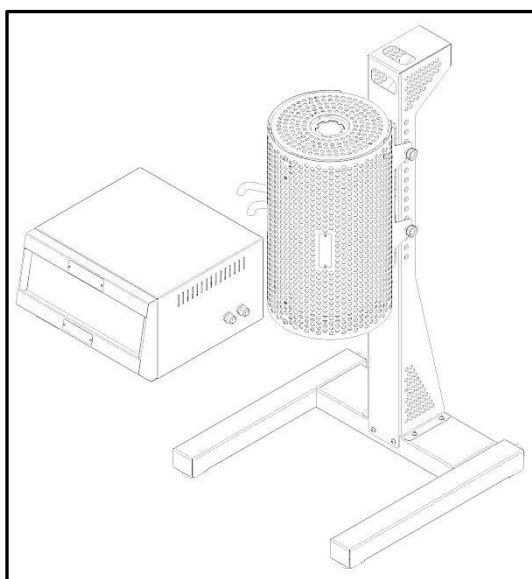
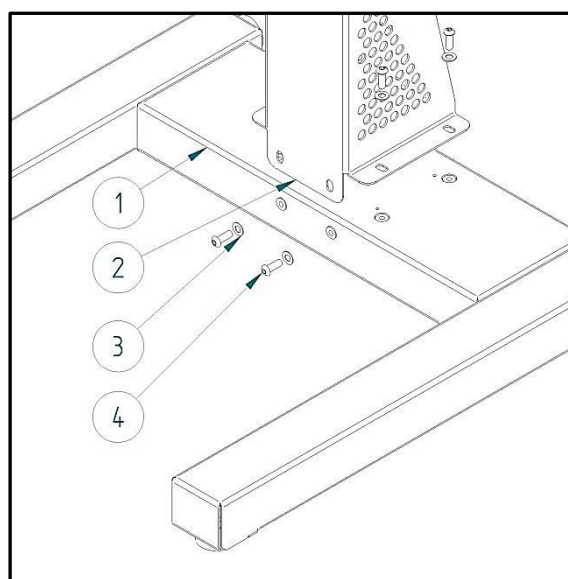
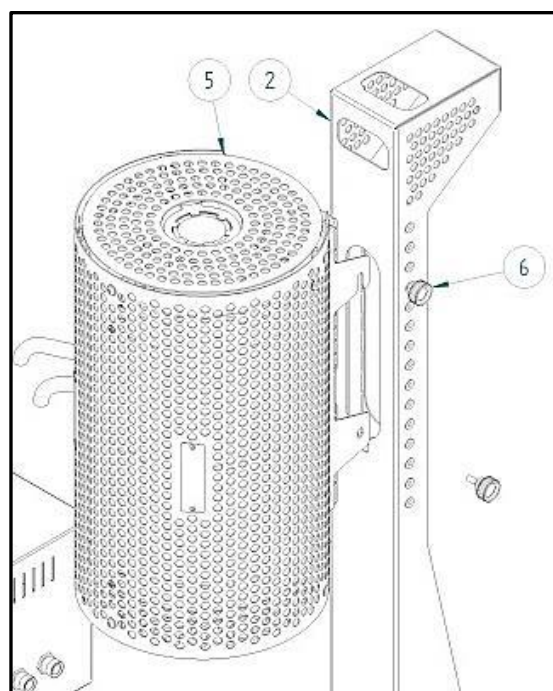
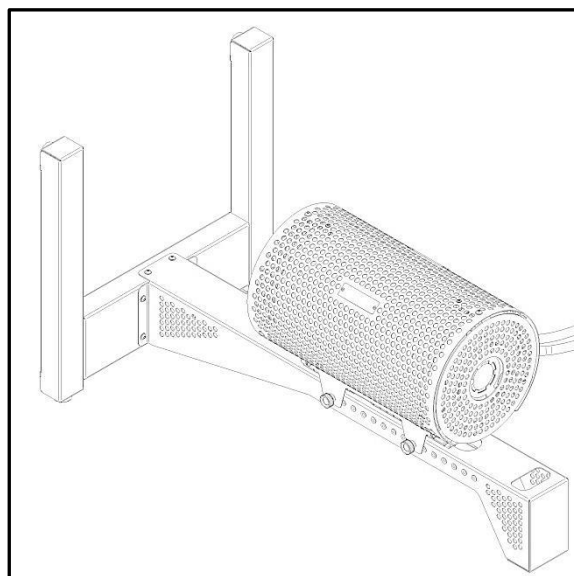

Figure 2-9. EVA vertical model mounted on its stand.
Figure 2-10. Assembling the EVA vertical stand.
Figure 2-11. Mounting the EVA/EVC onto the vertical stand
Figure 2-12. EVA/EVC positioned horizontally on the stand
- Release the top fixing clips item 4 in Figure 2-9; lift the lid by the handle (1).
- Place the work tube into the bottom half of the furnace in the tube adaptors, between the work tube end stops (5). Note that the work tube might be a tight fit when it is new and may need to be twisted backwards and forwards slightly as it is placed.
The assembly of the vertical stand is as follows with reference to Figure 2-9, Figure 2-10 & Figure 2-11:
- Place the vertical stand base item (1) on the floor or bench on which it is to be assembled.
- Position the vertical stand upright (2) on the stand base in line with the fixing holes.
- Secure the stand upright to the base using the 6x M6 dome cap screws (4) and washers (3) supplied.
- Partially screw in the top M6 screw knobs, 2x (6) into the frame upright as shown in Figure 2-11.
Index to numbered items in Figure 2-10 and Figure 2-11
The EVA and EVC models can be used either with the stand vertically as shown in Figure 2-9, page 8 or horizontally as shown in Figure 2-12.
- Remove the top work tube end guard (item 8) then remove the work tube adaptor fixing bracket (4) that holds the work tube end stop (7) and the work tube adaptor (3) in place. Note₍₁₎ it might be easier to do this with the furnace in the horizontal position as shown in Figure 2-12 page 9.
Note it is easier to fit the work tube with the furnace in the horizontal position as shown in Figure 2-12 page 9.